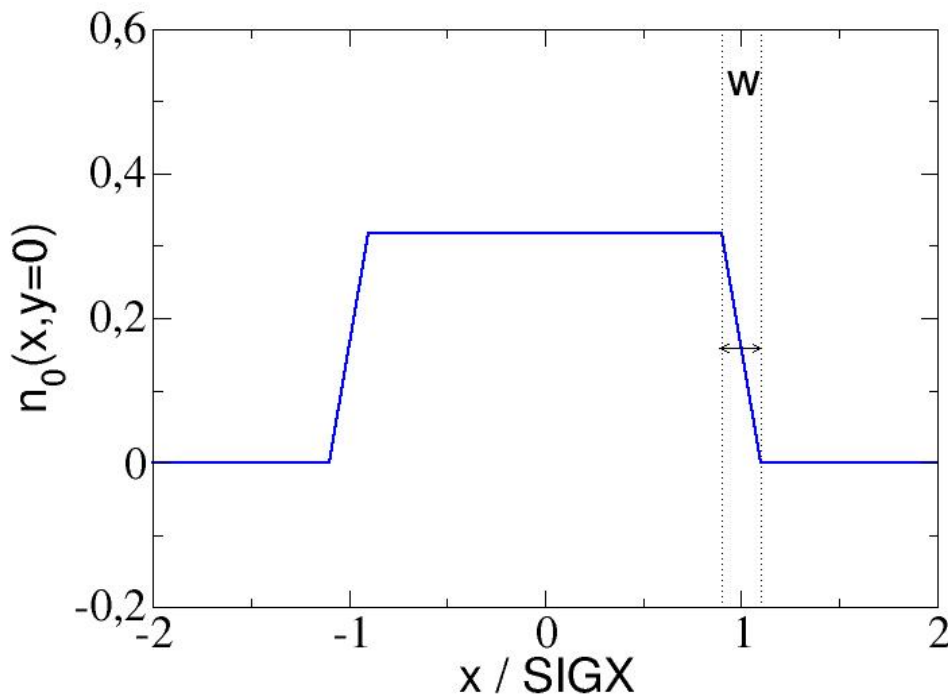

Figure 10.2: Trapezoidal shape of radial density for beam-beam lens.
- **BBSHAPE=2:** trapezoidal shape (see fig.10.2). **SIGX**, **SIGY** are the half widths of density profile, *i.e.* distance from the centre to half edge region with linear decrease of density in horizontal and vertical directions. Only circular opposite beam is possible, *i.e.* in the calculations $SIGX' = SIGY' = (SIGX + SIGY) / 2$ is used, if **SIGX** and **SIGY** have different values. **WIDTH** denotes the full width of the edge region in units of **SIGX** (or $SIGX'$ and $SIGY'$, respectively, if **SIGX** and **SIGY** are not equal), *i.e.* if **WIDTH**=0.01 and **SIGX**=5mm, the edge region has a full width of 0.05 mm. Condition: **WIDTH** < 2.0.